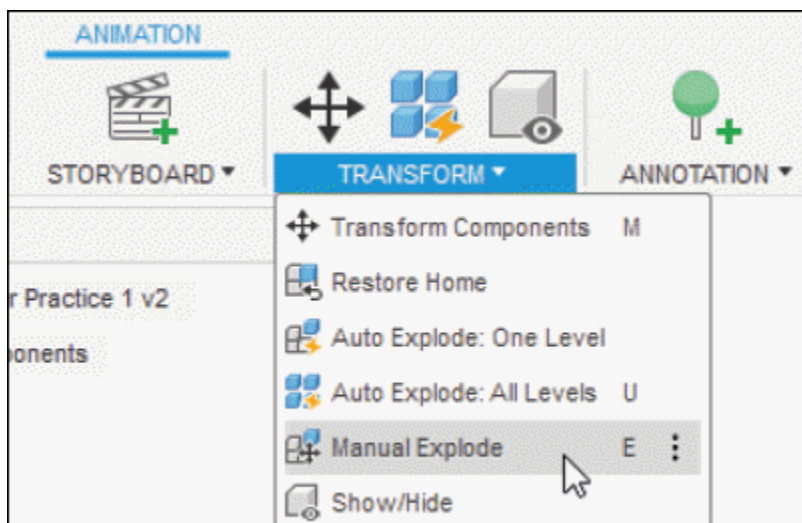

Figure-46. Manual Explode tool
- Click on the **Manual Explode** tool of **TRANSFORM** drop-down from **Toolbar**; refer to Figure-46.